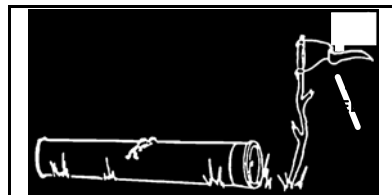

Figure 2. Mark misfired TOW location.
6. Inform the Bradley commander when the task is completed so that he can notify the chain of command of the existence and location of the misfired TOW missile (Figure 2).